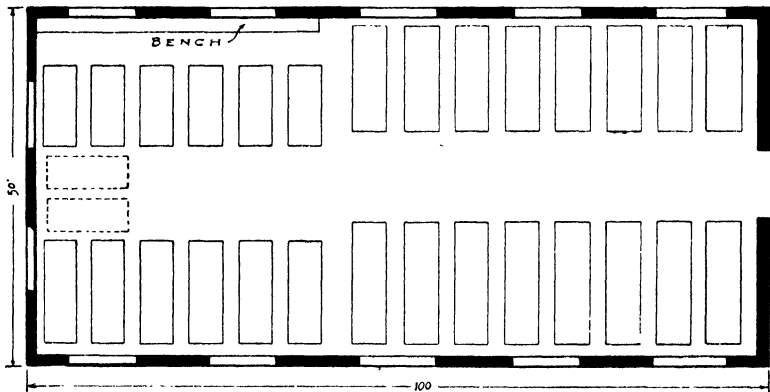

Fig. 4. Rearrangement of Small Garage to Hold 28 (and possibly 30) Cars
*Layout 2.* If the intention was to have storage space only, with simply a bench provided for repair work, this space could be managed more advantageously by rearranging it, as shown in Fig. 4. Here the partition has been taken out, and for a short distance along one wall all cars have been moved out into the central aisle a few feet. This allows room for the work bench and space beside it in which to do work. Space is provided for 28 cars, 2 more than in layout 1, and, if it were necessary, two cars could be put against the rear wall in the aisle, as shown by the dotted lines, to make a total of 30. Of course, the corner for tools and the tools themselves